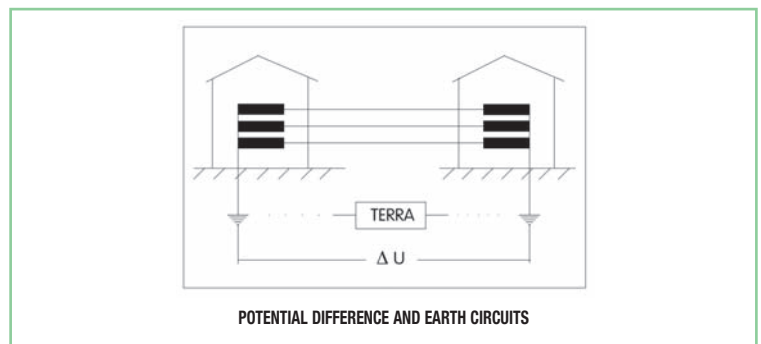

fig. 5
- the higher the isolation (in KV), the greater the security of transmission where there are zero potentials, electromagnetic interference, transients (lightning, discharges etc.) (Fig. 5).